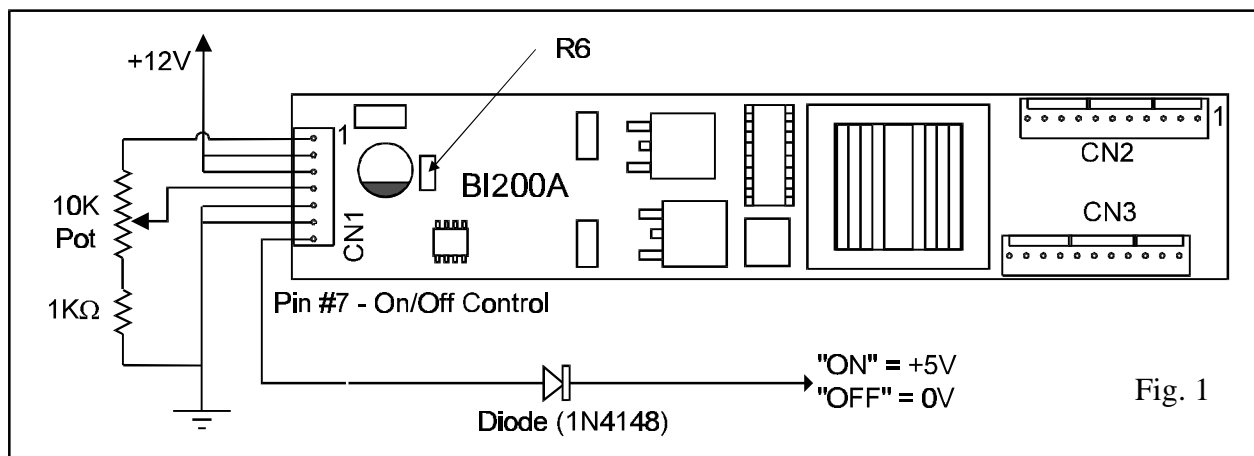

Fig. 1
Fig 1 below depicts what need be done to modify the BI200A inverter. Basically, there are two steps:
1. Add an external diode in series with the On/Off control pin. In Fig. 1, we recommend the 1N4148 diode since it is being used elsewhere on the BI200A inverter. Alternatively, any diode with a forward voltage drop of less than 0.5V and reverse resistance greater than 1 MΩ can be used.
2. Change the value of R6 from 34KΩ to 18KΩ. Use a resistor with 1% tolerance in 1206 surface mount package. R6 is located next to the aluminum can capacitor as shown in Fig. 1. Remove the original R6 resistor which has its resistance marked in white characters as 3402 (resistance = 340 plus two zeros = 34000 Ω). Then solder the new resistor (marked 1802) to the pads.